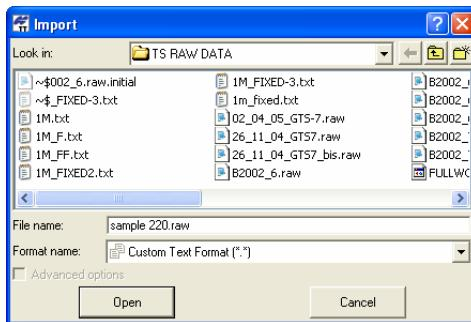

Figure 3-30. Import Custom TSRaw Format File
4. Set the desired *Advanced* options (Figure 3-30 on page 3-30): define the projection type, coordinate order, and type of vertical angle if known.